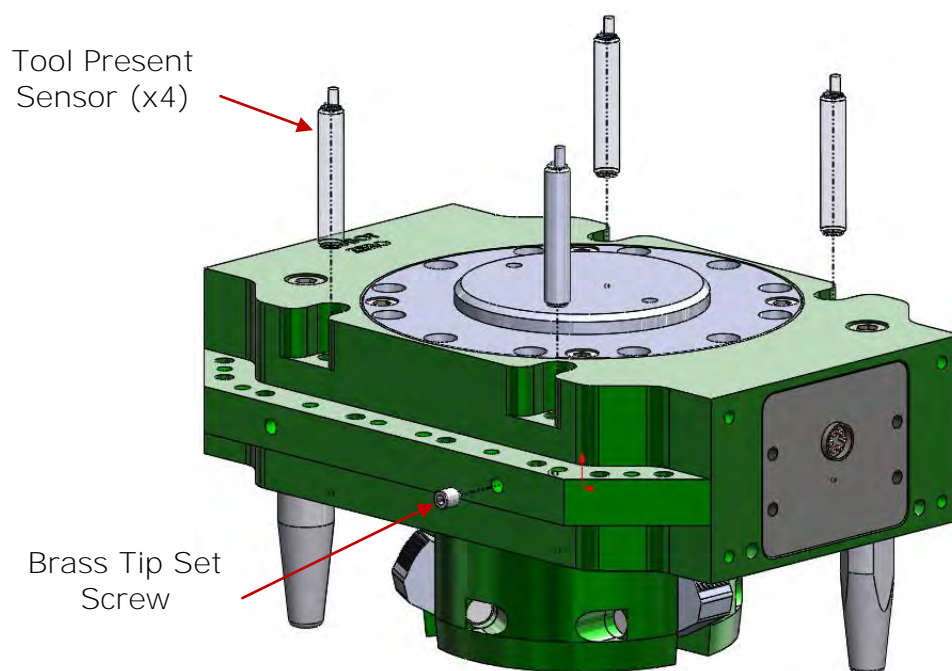

Figure 5.5-1. Tool Present Option
The E125 Tool Changer contains built in features for Tool Present detection via proximity sensors (Figure 5.5-1). This option allows for up to four (4) Tool Present sensors to be installed and the signals to be monitored either individually or in series providing a single output signal to ensure parallelism between the Robot Adaptor and Tool Adaptor during docking.